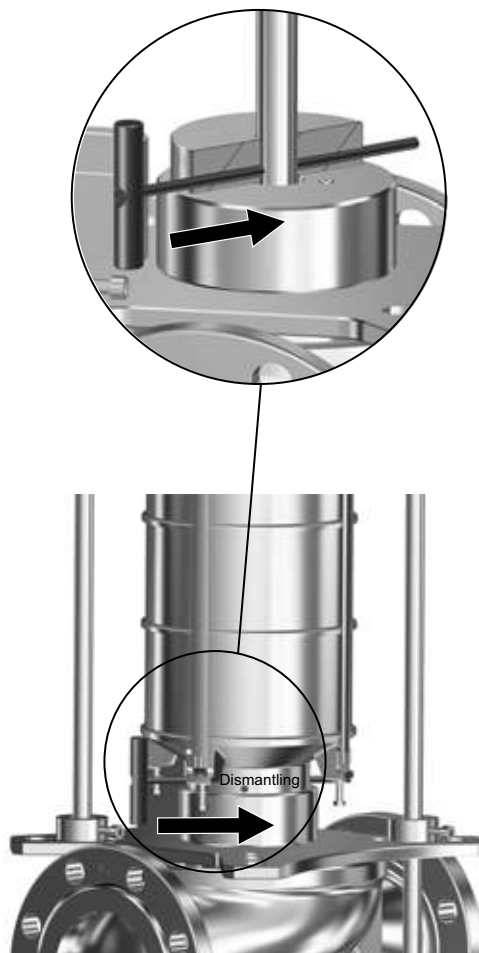

Fig. 23 Locking the shaft in service tool H2
6. Align the hole in the pump shaft with the hole in service tool H2 marked "Dismantling". See fig. 23.
7. Fit service tool D in the hole marked "Dismantling". See fig. 23.